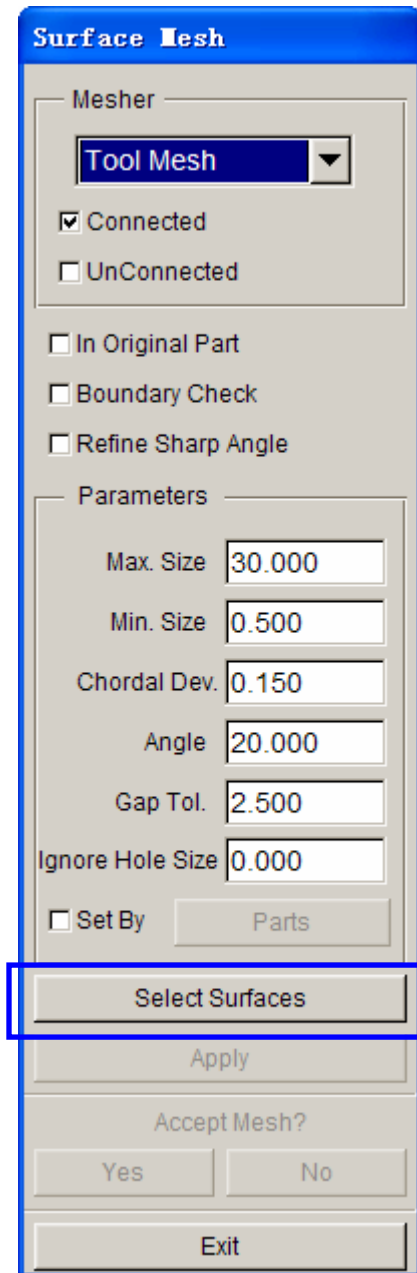

Figure 28: Surface mesh dialog box
4. In the displayed **Surface Mesh** dialog box (shown in Figure 28), default values in all fields will be used. Toggle off the **In Original Part** and **Boundary Check** options.